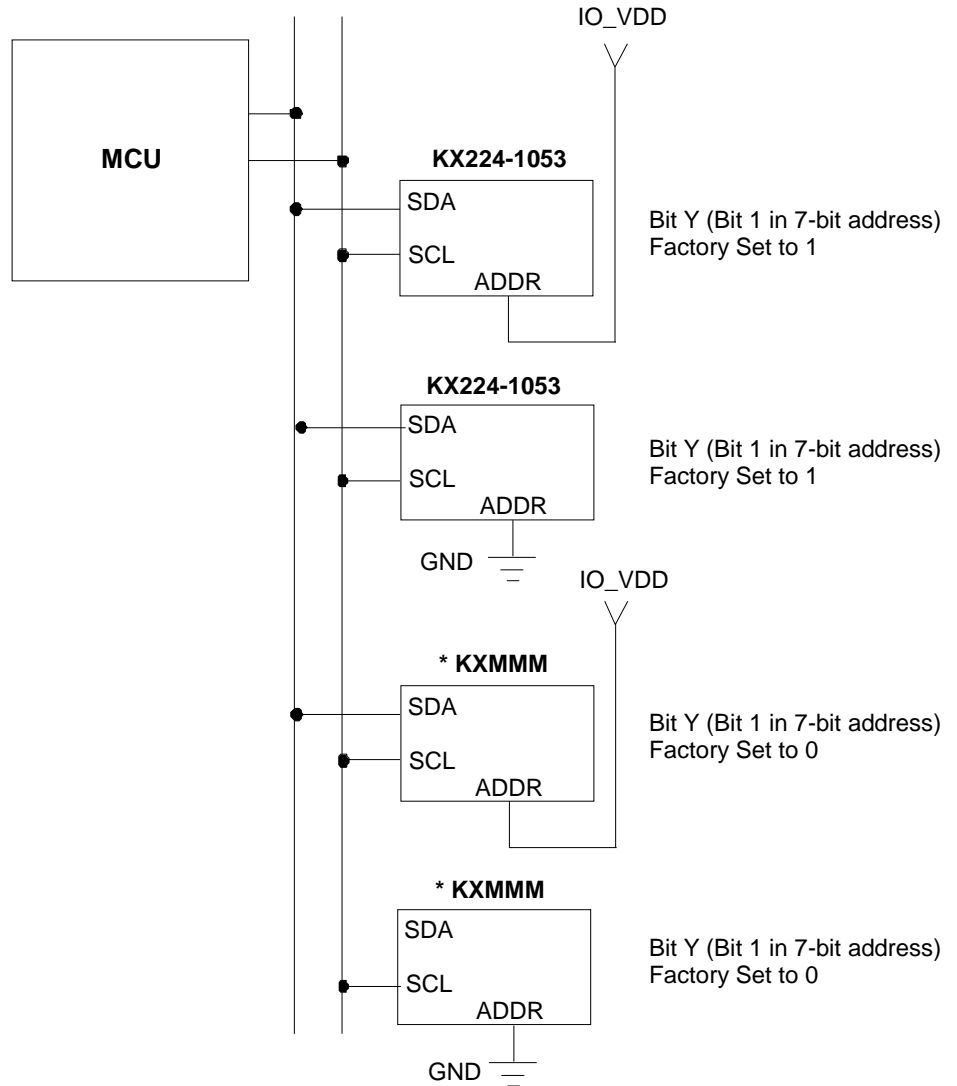

Figure 1: Multiple KX224 Accelerometers on a Shared I²C Bus
Transactions on the I²C bus begin after the Master transmits a start condition (S), which is defined as a high-to-low transition on the data line while the SCL line is held high. The bus is considered busy after this condition. The next byte of data transmitted after the start condition contains the Slave Address (SAD) in the seven MSBs (Most Significant Bits), and the LSB (Least Significant Bit) tells whether the Master will be receiving data ‘1’ from the Slave or transmitting data ‘0’ to the Slave. When a Slave Address is sent, each device on the bus compares the seven MSBs with its internally stored address. If they match, the device considers itself addressed by the Master. The KX224 Slave Address is comprised of a user programmable part, a factory programmable part, and a fixed part, which allows for connection of multiple accelerometers to the same I²C bus. The Slave Address associated with the KX224 is 00111YX, where the user programmable bit X, is determined by the assignment of ADDR (pin 1) to GND or IO_VDD. Also, the factory programmable bit Y is set at the factory. **For KX224-1053, the factory programmable bit Y is fixed to 1** (contact your Kionix sales representative for list of available devices). Table 6 lists possible I²C addresses for KX224-1053. As a result, up to four accelerometers can be implemented on a shared I²C bus as shown in Figure 1 on the next page (e.g. two KX224-1053 accelerometers and two other accelerometers with factory programmable bit Y set to 0).